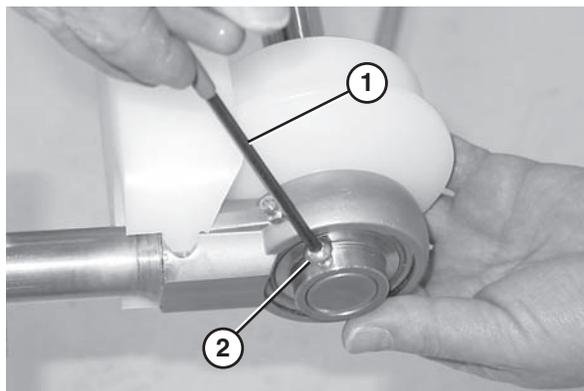

Figure 84
9. Use a hex wrench (**Figure 84, item 1**) to tighten the bearing shaft fasteners (**Figure 84, item 2**) to 54 in•lbs (6 N•m). Check after 24 hours of conveyor use.